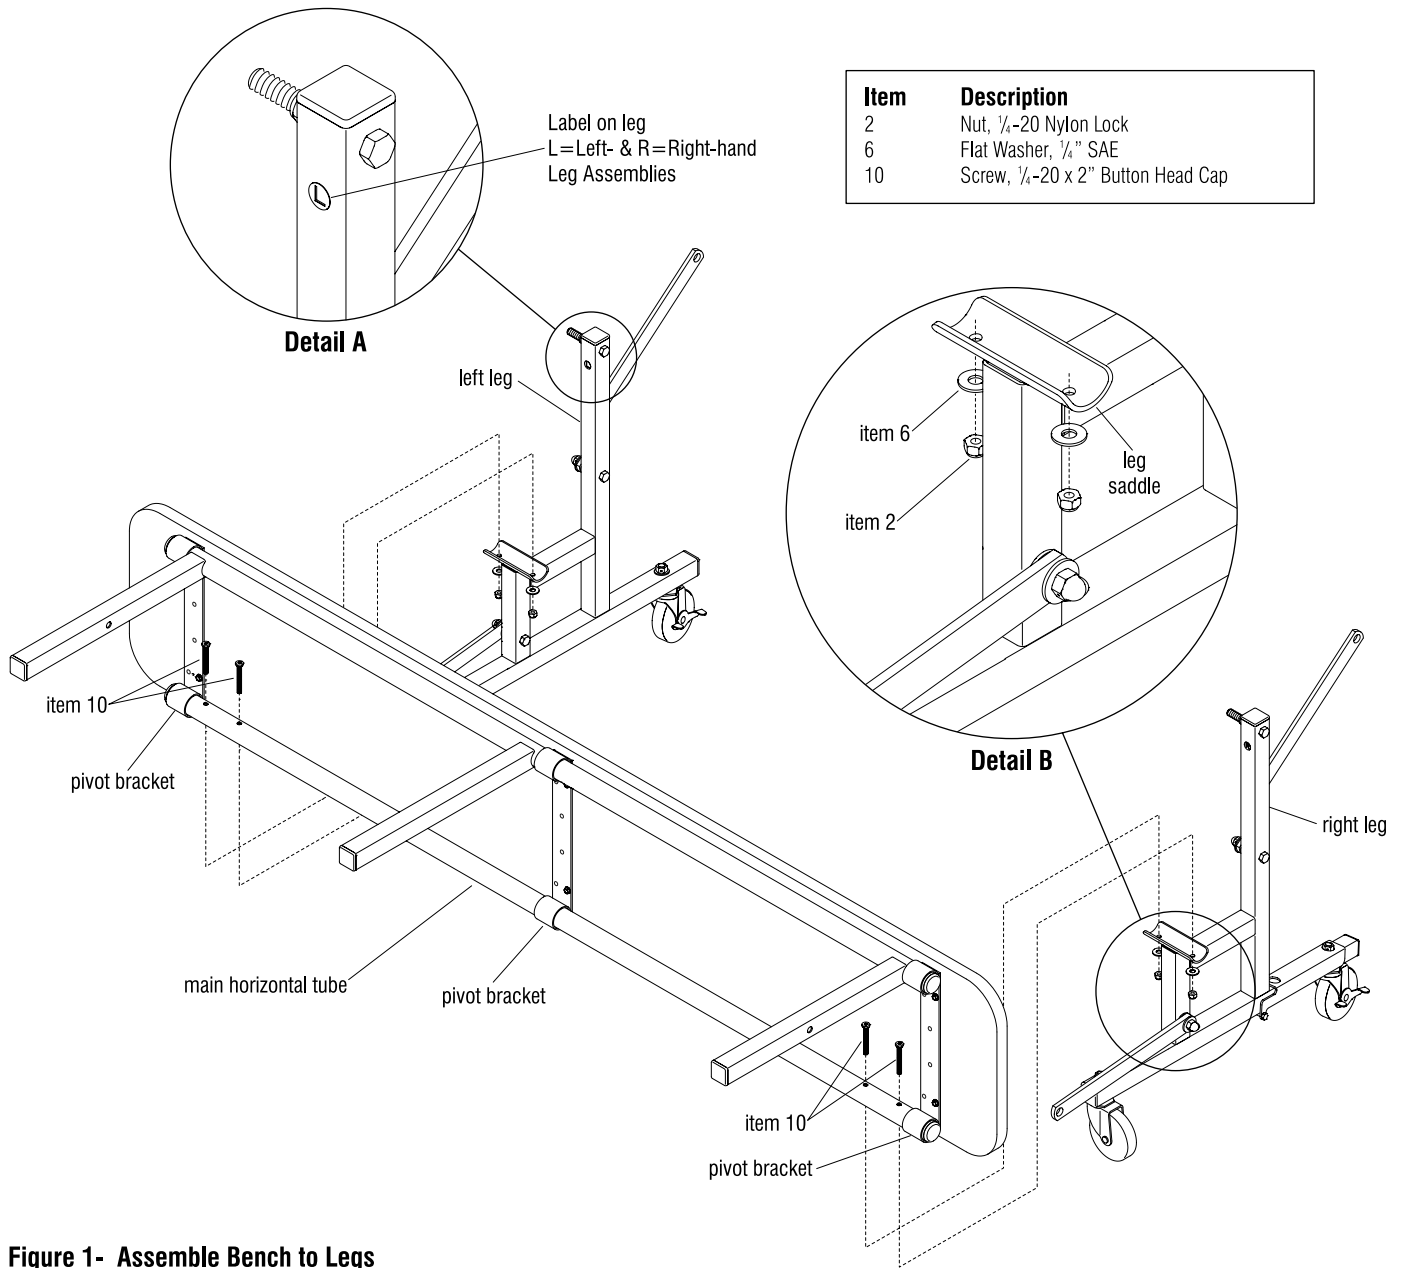

Figure 1- Assemble Bench to Legs
1. Identify right- & left-hand support leg assemblies by labels on upper support member (Figure 1 & Detail A).
2. Insert main horizontal tube through the pivot brackets in each bench assembly (Figure 1).
3. Insert four 1/4-20 x 2" screws (item 10) into main horizontal tube (Figure 1).